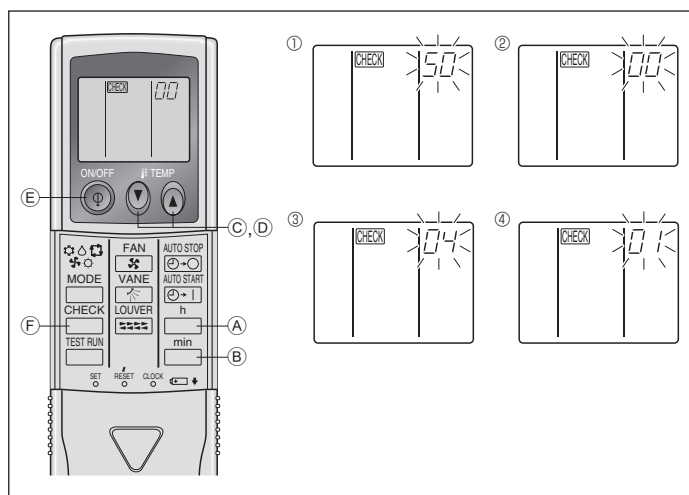

Fig. 6-10
2) For IR wireless remote controller (Fig. 6-10)